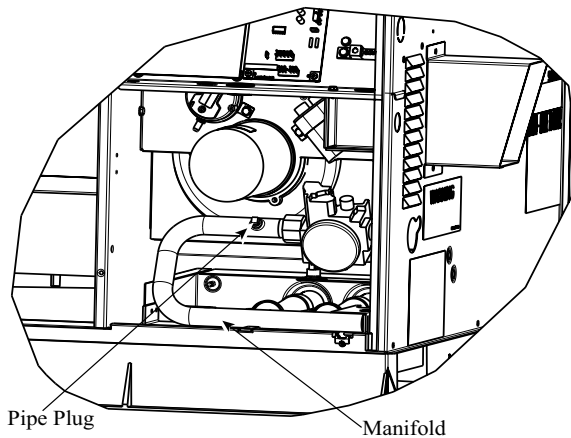

Fig. 11 – Burner Assembly
2. Remove pipe plug on manifold (See Fig. 11) and connect manometer. Turn on gas supply to unit.
6. Turn off gas supply to unit. Remove manometer from pressure tap and replace pipe plug on manifold (see Fig. 11). Turn on gas and check for leaks